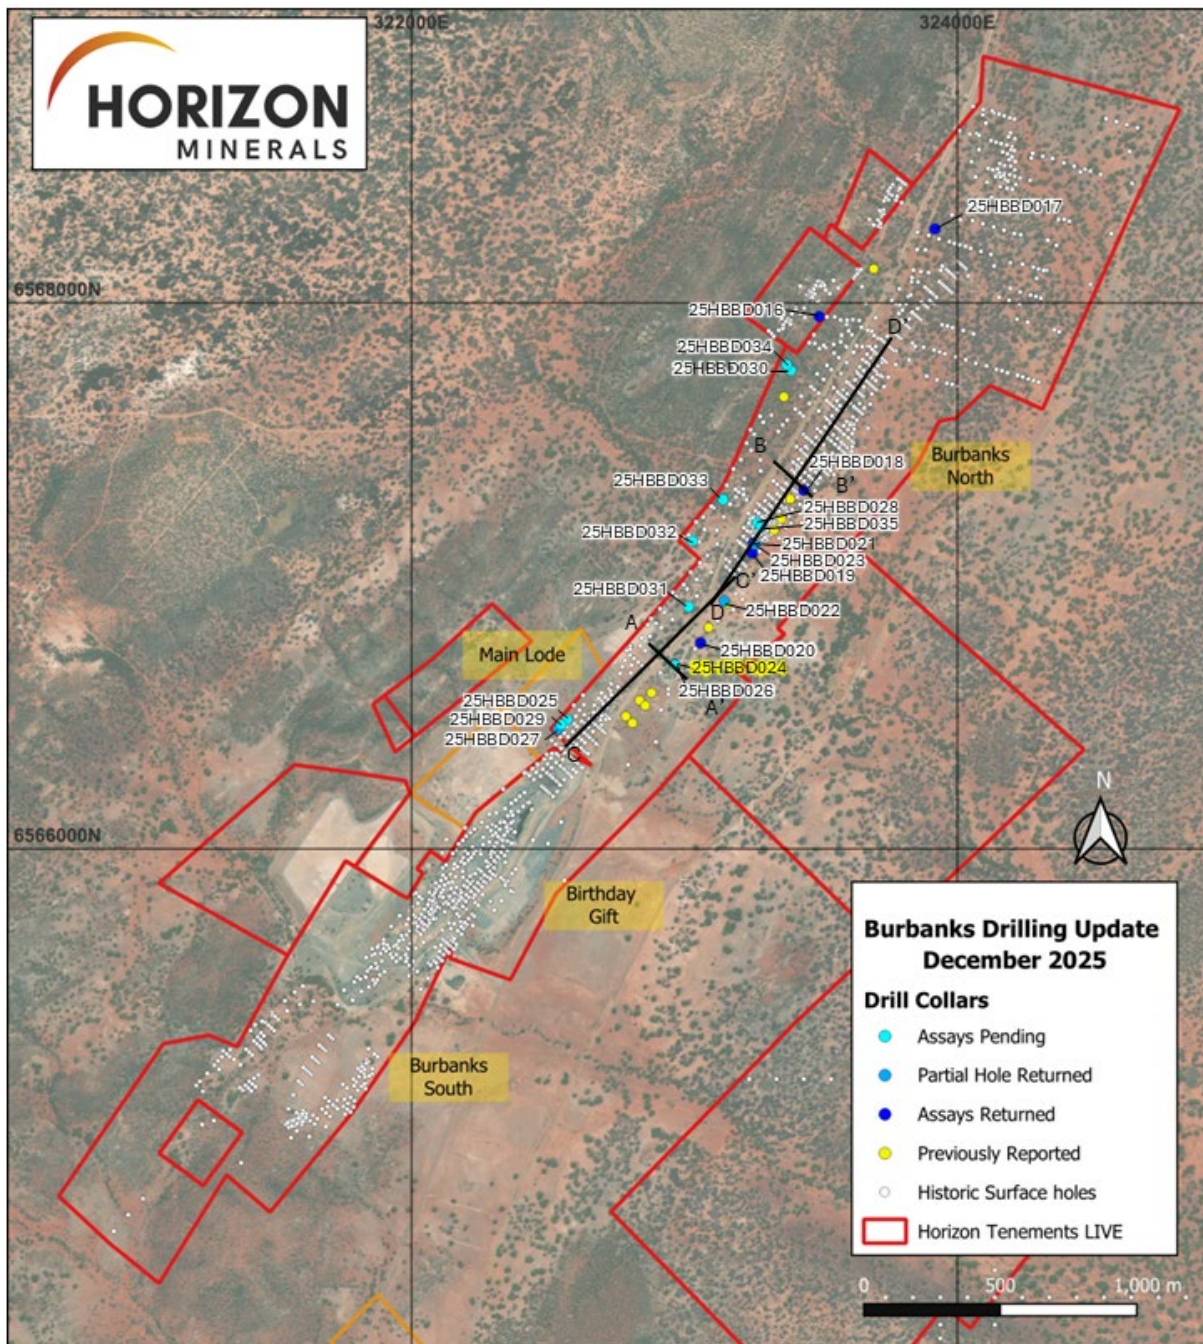

Figure 2: Burbanks Mining Centre showing the location of the completed holes in the current drill program and representative long and cross sections.
- The Burbanks North resource, particularly its northern extension (Figure 2).
Phase 1 comprises 45 holes, with 35 holes completed to date for a total of over 10,000m (Figure 2). Assay results have been returned for the first 25 holes, with the latest 10 holes included in this report. Four of these